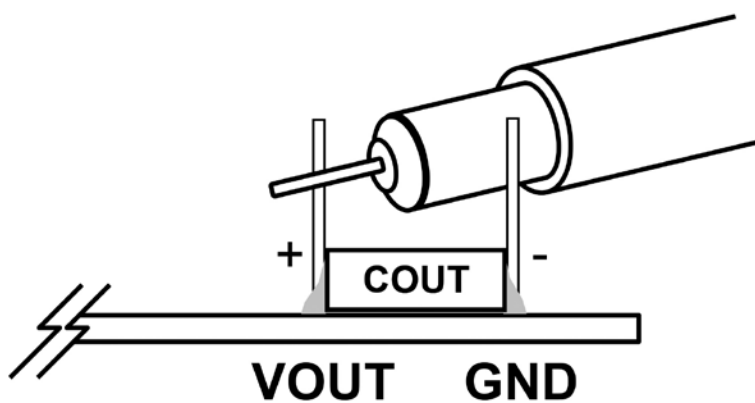

Figure 2. Scope Probe Placements for Measuring Input or Output Ripple
6. Once the input and output voltages are properly established adjust the loads within the operating range (0A to 2A max) and observe the output voltage regulation, output ripple voltage, switch node waveform and other parameters. Refer to Figure 2 for proper input/output voltage ripple measurement.
Note 1: To measure the input/output voltage ripple properly, do not use the long ground lead on the oscilloscope probe. See Figure 2 for the proper scope probe technique. Short, stiff leads need to be soldered to the (+) and (–) terminals of an output capacitor. The probe's ground ring needs to touch the (–) lead and the probe tip needs to touch the (+) lead.